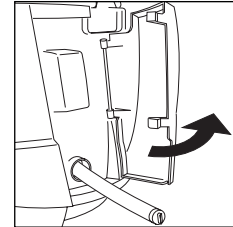

fig. 5
2. Open the panel and remove the drainage hose as shown in fig. 5.